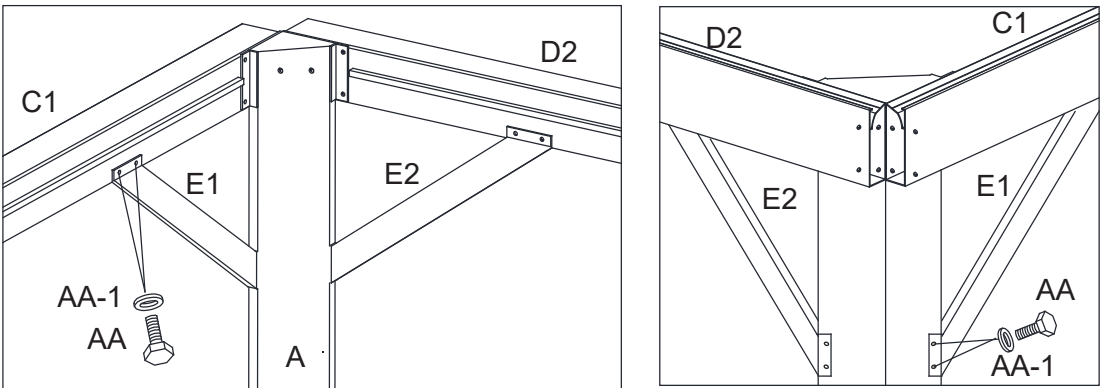

Figure 5-2
- 5.2. Attach Support Bars (E1/E2) to Corner Post (A) and to Lintels (C1/C2) with Bolts (AA) and Steel washer (AA-1). See Figure 5-2.